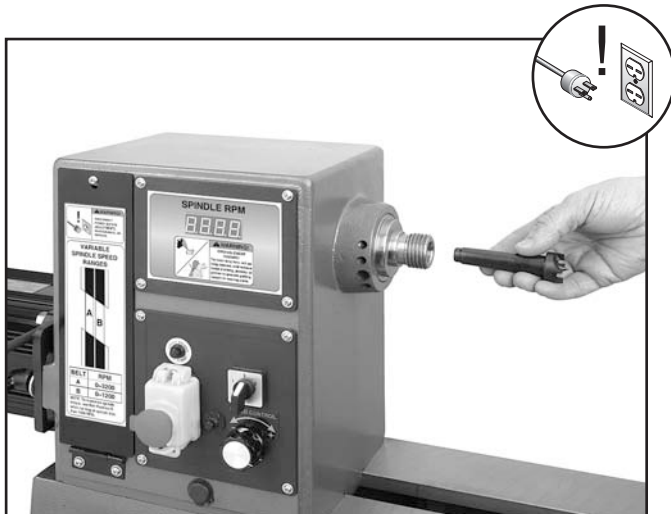

Figure 22. Installing center into the headstock spindle.
3. Insert the tapered end of the center into the spindle, and push it in with a quick, firm motion (see **Figure 22**).